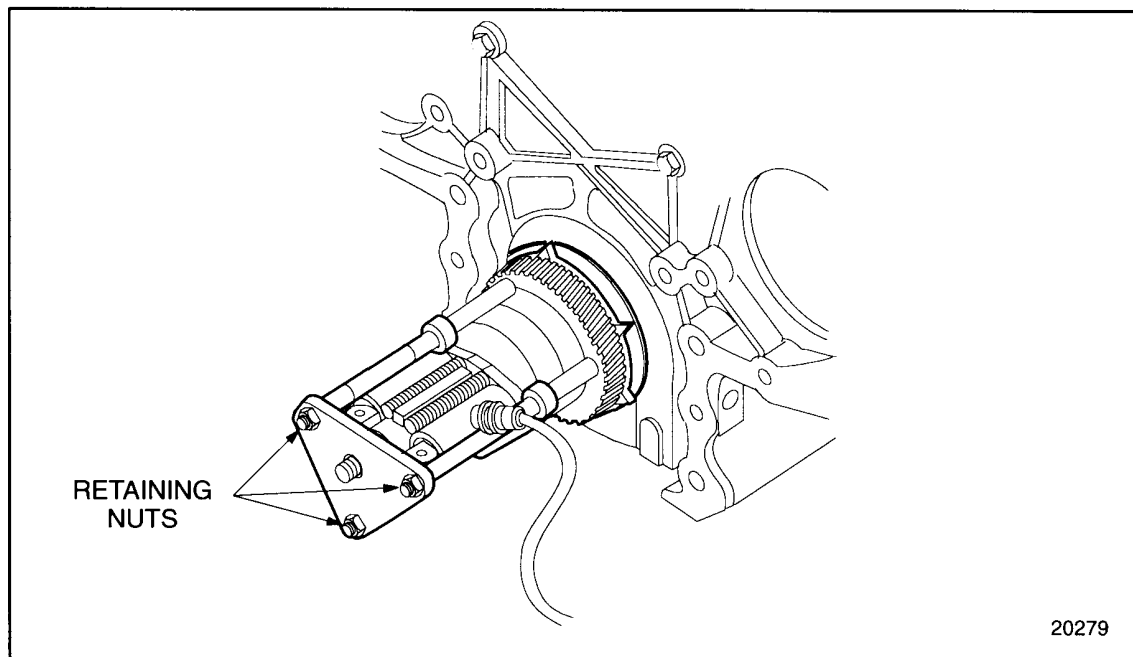

Figure 1-359 Retaining Nuts Installation
13. Install the three retaining nuts to the legs. Tighten the nuts to the pressure plate. Tighten the nuts until they are snug. See Figure 1-359.